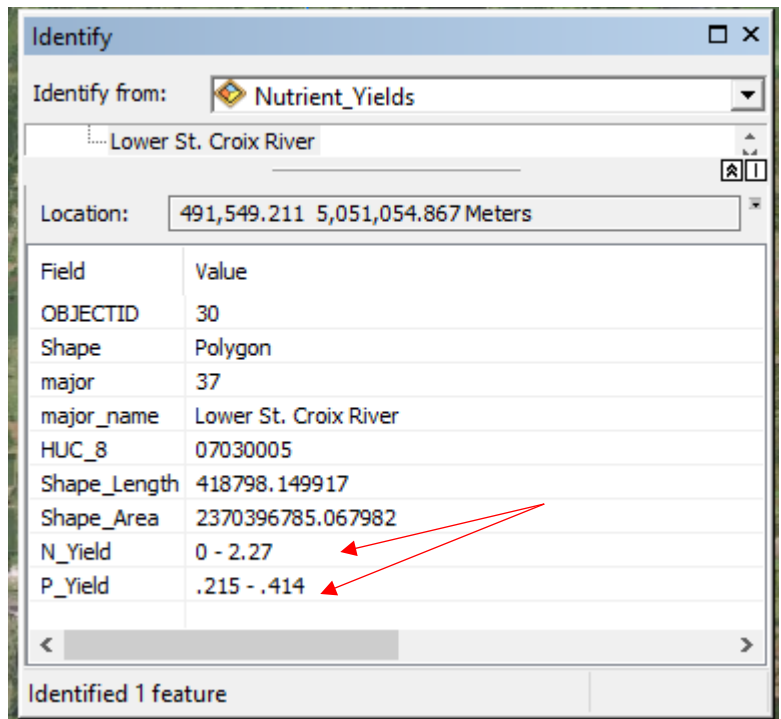
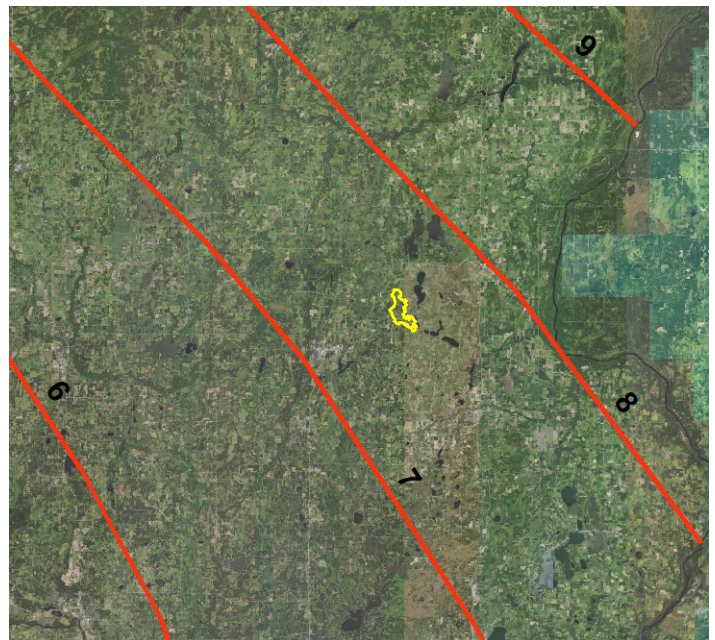

Figure 20. Nutrient Yield
Figure 21. Mean Annual Runoff Layer
- Mean Annual Runoff (Figure 21) and Annual Total Phosphorus Yield (Figure 20) can be determined by the layers included in the toolbox. Both will likely be the same value for all fields in your assessment area.
- Select a value in the range given when the Identify tool is used (Figure 20, previous page) and use it for all fields. For the Chisago Rural SWA, the highest value in the range was used as a “worst case scenario.”